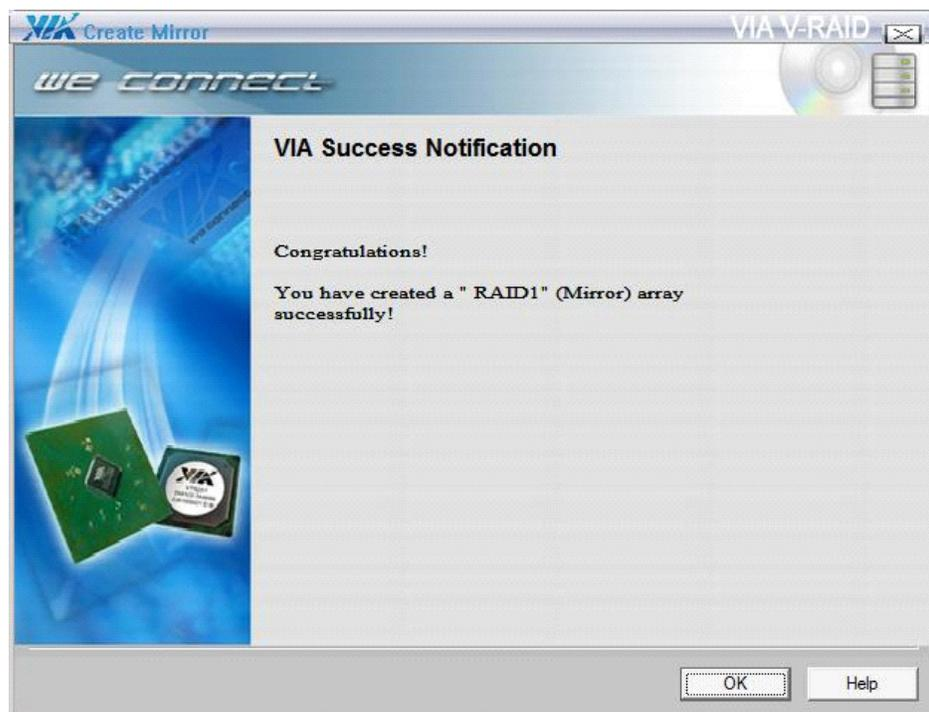

Figure C-7 RAID1 Array Successfully Created
10. A new dialog box appears when a RAID1 Array has been successfully created (Figure C-7). Click **OK** to continue.